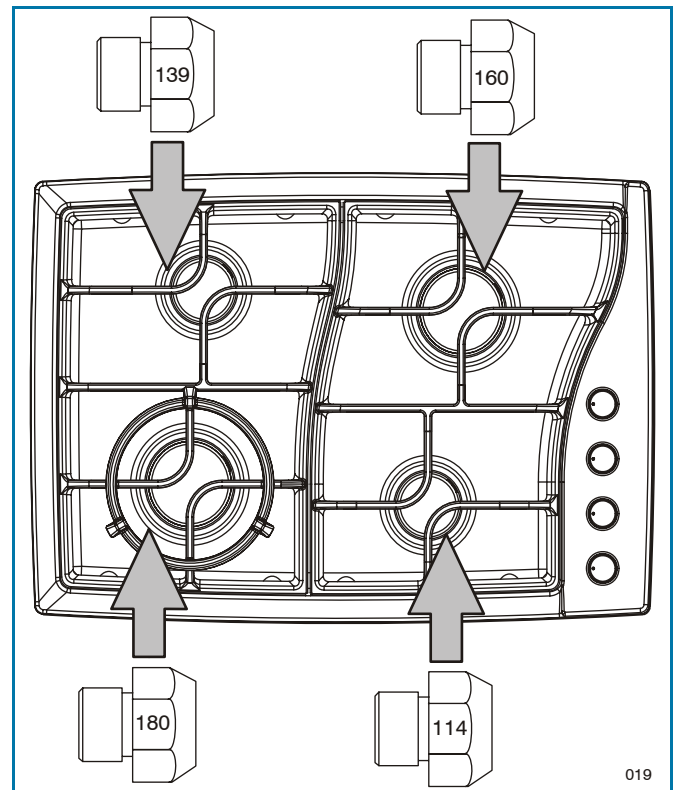

Figure 20. 4 burner Model (30" wide)
1. **REPLACE ALL LP INJECTORS** with NG injectors following the steps described on previous page, observe the number stamped on the side, this number codes the orifice diameter and its correct burner location see figure 20 (save the injectors removed from the appliances for future use).